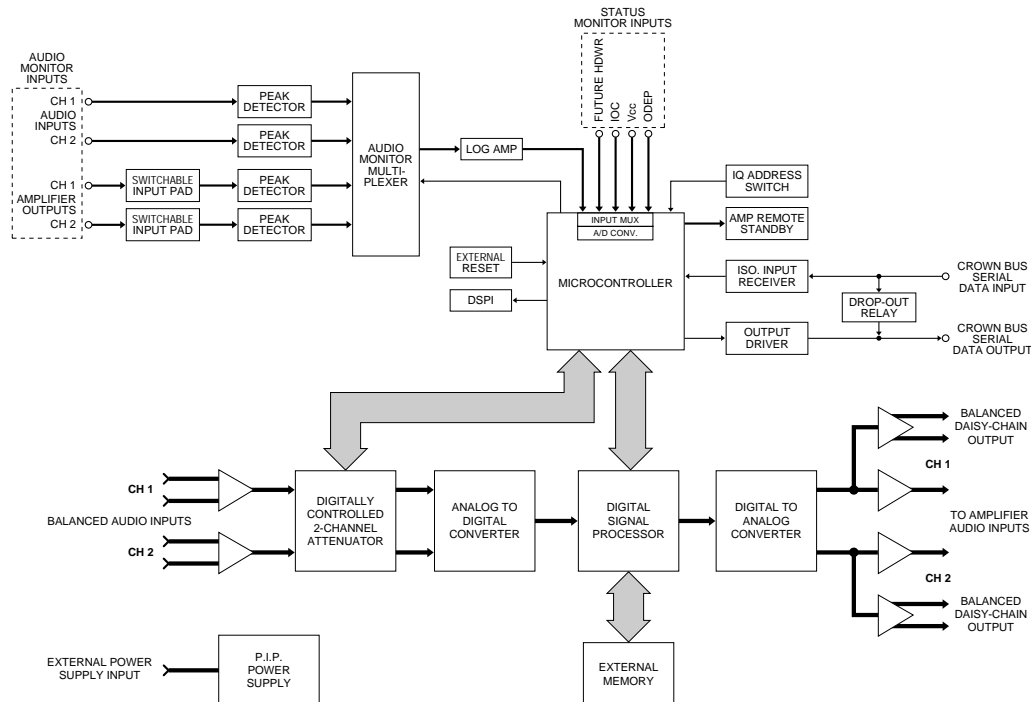

Fig. 5.1 *IQ-P.I.P.-DSP* Hardware Circuit Block Diagram
The purpose of the *IQ-P.I.P.-DSP* is to provide extensive signal processing capabilities and to enable an *IQ System* to control and monitor a *P.I.P.*-compatible amplifier. See Sections 2 and 3 for a list of the facilities and features. Figures 5.1 and 5.2 show hardware and signal flow block diagrams of the unit.
5.1.1 Hardware Processing (see Figure 5.1)